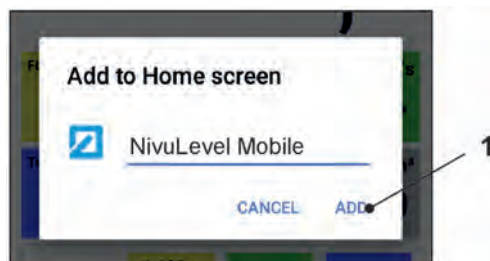

Fig. 30-8 Confirm adding
9. Confirm with "Add" (Fig. 30-8 Pos. 1).